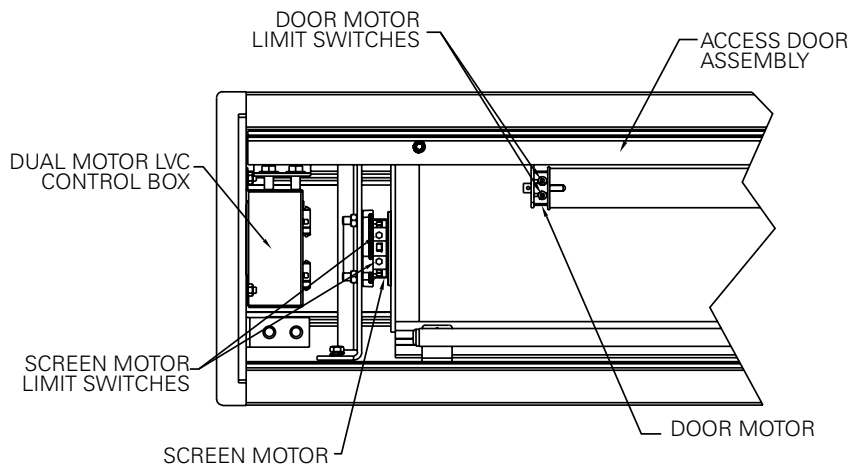

FIGURE 2
9. Carefully remove tape strips securing picture surface around roller. Slat should move freely (Fig. 2). (Only if the roller assembly is pre installed.)
2. When the screen stops, turn the white "down" limit knob (Fig. 2) one-quarter turn counterclockwise. Test by raising picture surface approximately two feet, then lower again. Repeat until desired picture surface position is attained.
3. Turn the white "down" limit switch (Fig. 2) one-quarter turn clockwise. Test by raising picture surface approximately two feet, then lower again. Repeat until desired picture surface position is attained.